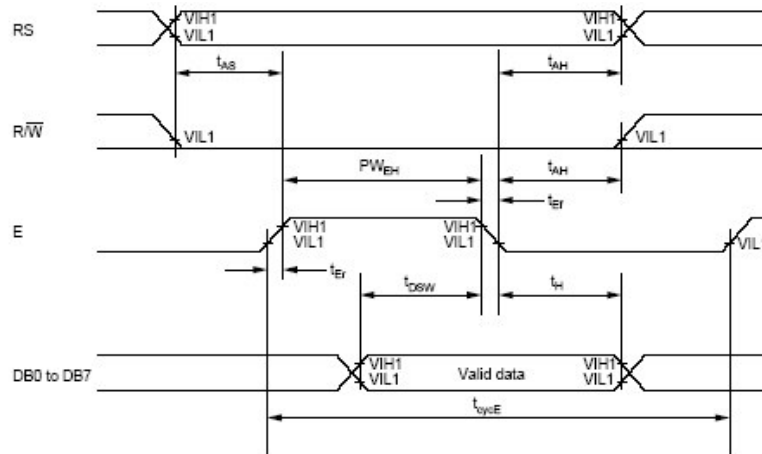

Figure 4: HD44780 Write Timing
For detailed timing diagram please refer to Figures 4 & 5, below which show both the timing diagram and parameters for the control and strobe. You will need to pay close attention to these timing constraints, as failure to do so will cause the LCD to behave incorrectly and in strange ways. You should also note that the LCD is very slow, with timing numbers measured in microseconds, where your circuit operates in nanoseconds ($1/27\text{MHz} = 37\text{ns}$).
- **After any operation is issued using the timing in Figure 4, you must continuously check the busy flag.** Your LCD controller may **not** issue a second operation to the HD44780 **until after the busy flag returns to 1'b0**.